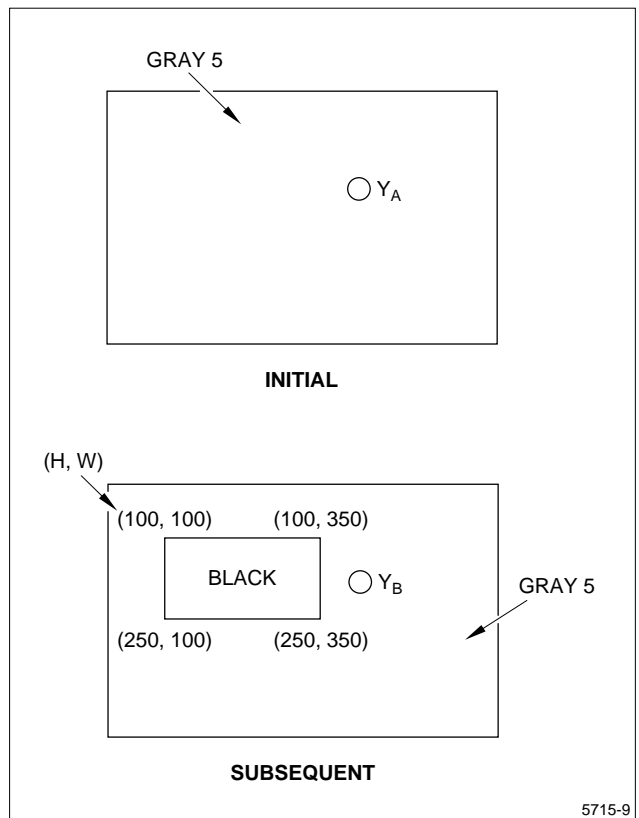

Figure 9. Definition of Shadowing
- Definition of Shadowing as shown in Figure 9. Shadowing is defined as: $(Y_A - Y_B)/Y_A \times 100$ (%).